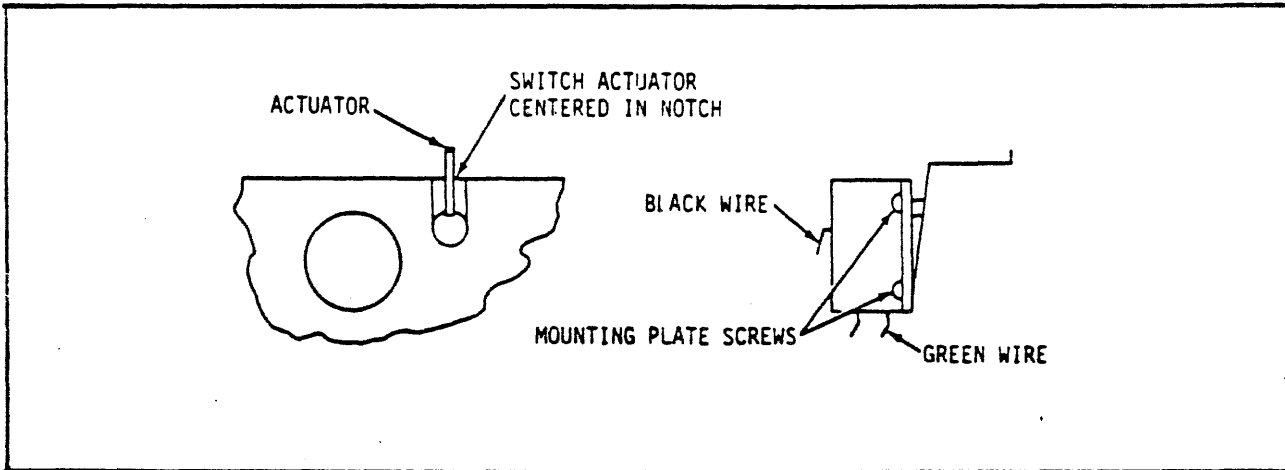

Figure 6-9. Hopper Empty Switch Adjustment
- c. Loosen two screws holding switch mounting plate, Figure 6-9.